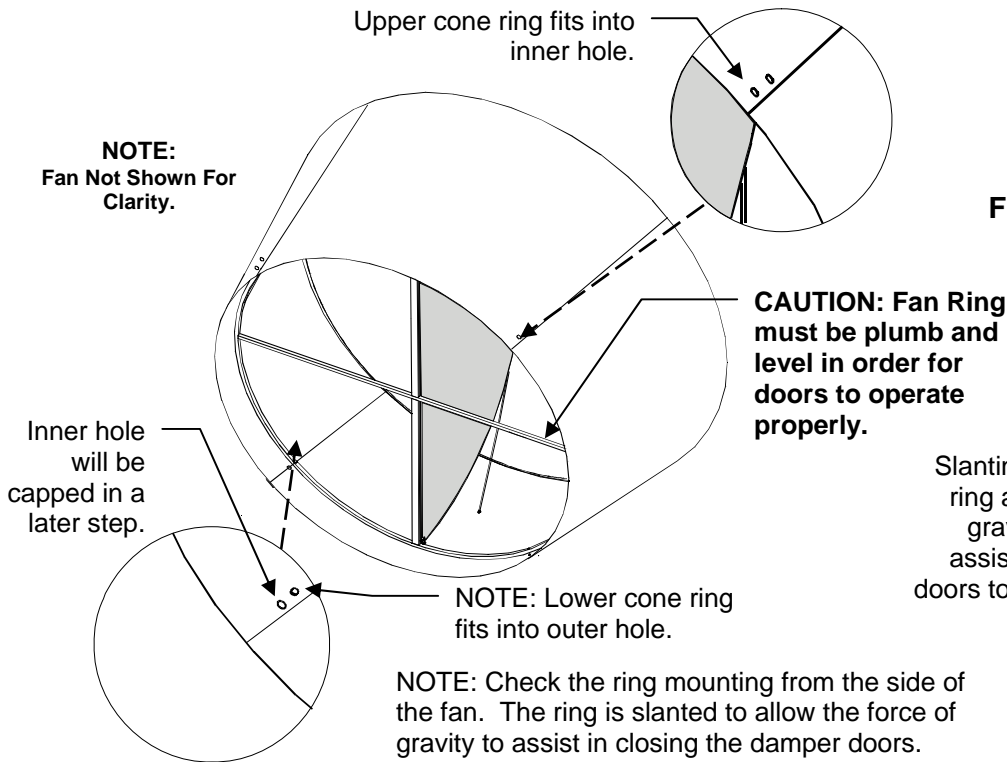
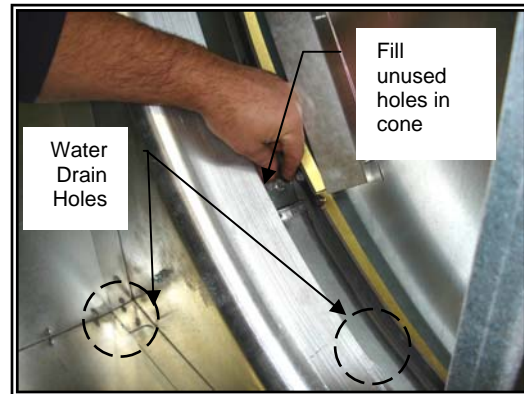

Figure 8: Mount the Ring Assembly
Figure 15 – Fill Unused Holes in Cone
- 16. Mount the Damper Ring. The ring is mounted in the holes closest to the orifice on the top and farthest away from the orifice in the bottom. Use 1/4"-20x1" bolts, nuts and washers (provided) to attach ring to cone. Washers go on outside of cone. See Figures 8 and 9.
23. There are two unused holes in the bottom of the cone. For reference refer back to Figure 8. Place a 3/8" bolt and nut in these holes to prevent light from passing through. See Figure 15.
24. There are two pre cut drain holes in the bottom of the fan housing in either corner and one in the bottom center of the cone. These may be opened if necessary. See Figure 15.